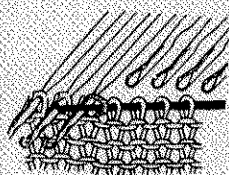

Fig. 85
- a) Transfer the knitting to a hand knitting needle. (See Fig. 85)